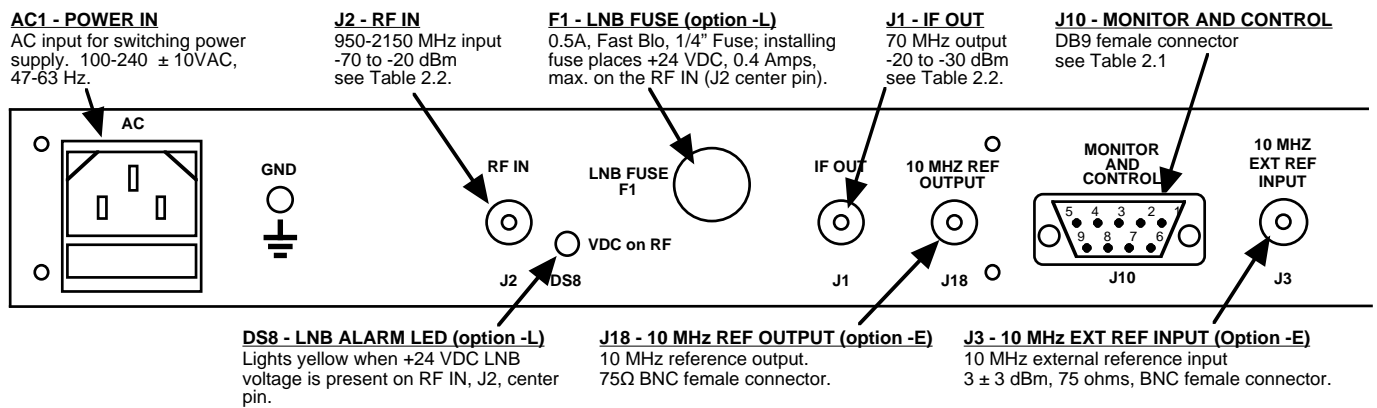

FIGURE 2.2 2016-02 Rear Panel I/Os
Figure 2.2 shows the input and output connectors on the rear panel.
1. Connect a -20 dBm to -70 dBm signal to RF IN, J2 (Figure 2.2)